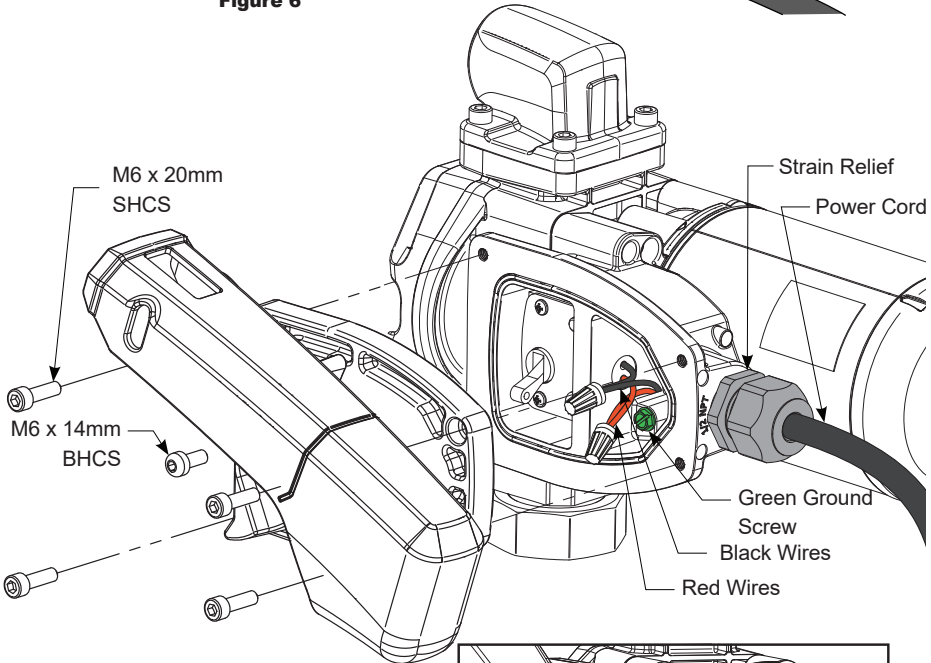
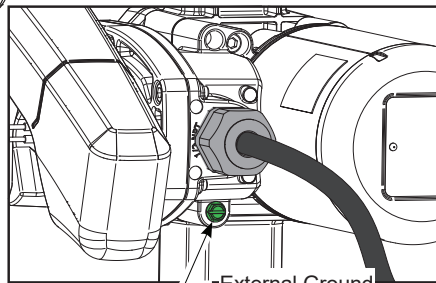

Figure 7
Figure 7a
To install the power cord, remove the (4) M6-1.0 x 20mm SHCS and electrical coverplate (see Figure 7).
Insert the power cord through the 1/2 inch NPT connection on the back of the pump (see Figure 7). Using wire nuts, connect the black wire to the black wire and the red wire to the red in the pump's electrical cavity. Position the wires inside the electrical cavity and tighten the strain relief grip securely. Make sure surfaces are clean. Reinstall the electrical coverplate and switch lever, and tighten securely.
A grounding connection is provided. It is identified as a green colored binding head screw in the electrical cavity (see Figure 7): an external ground can be used instead. When using the external ground for the G20-012PX (Zone 1 or 2), the installer **must** use a ground wire with a minimum cross-sectional area of 4mm². To use external ground, remove green ground screw from electrical cavity and install in location shown (see Figure 7a).